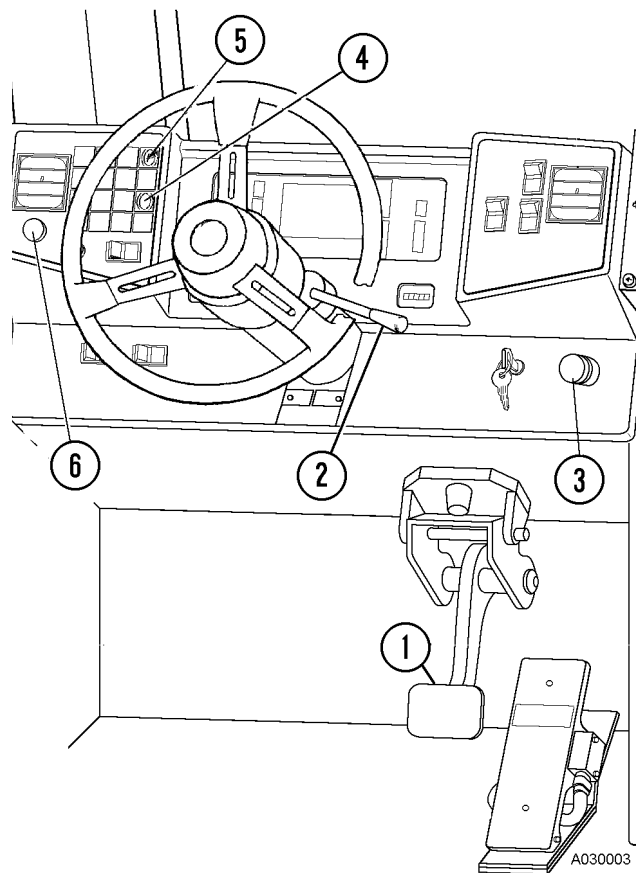

FIGURE 3-1. BRAKE SYSTEMS CONTROLS
- a. Depress foot brake pedal (1, Figure 3-1). Verify amber service brake lamp (4) in left pod illuminates.
- a. Move the retarder lever (2, Figure 3-1) to maximum retard position (lever down). Verify amber service brake lamp (4) in left pod illuminates.
- a. Press the parking brake switch (3, Figure 3-1) to the ON (applied) position. Verify red parking brake ON lamp (5) in left pod illuminates.
- a. Press the auxiliary brake switch (2, Figure 3-1) to select the ON (applied) position. Verify internal red lamp and service brake lamp turn on.